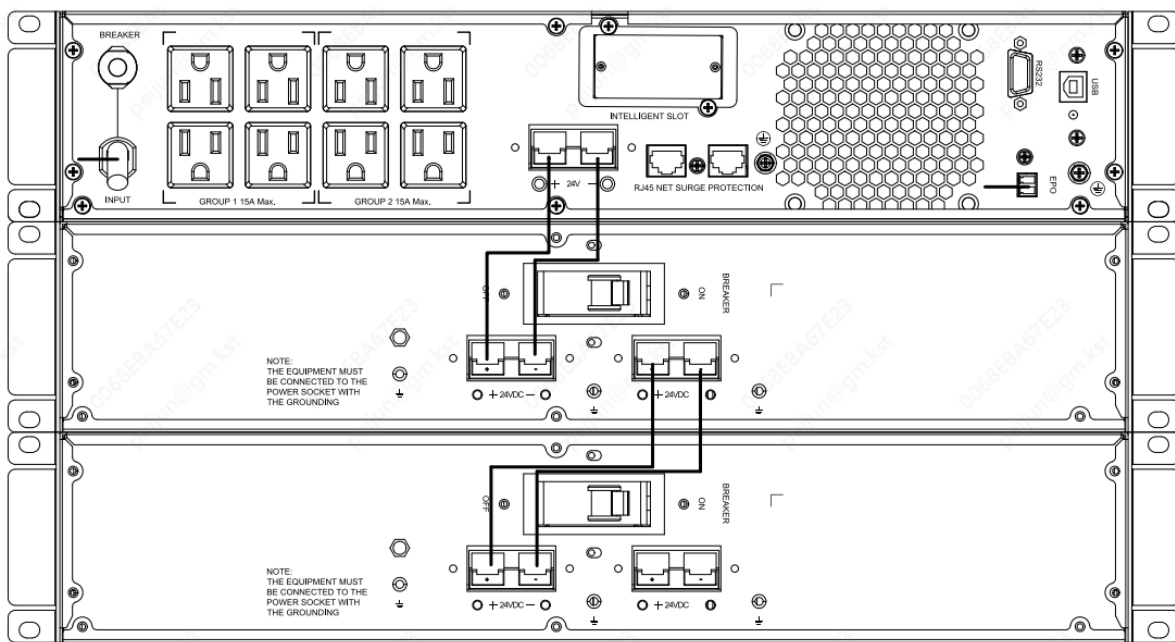

Figure 8 Typical EBP Installation
- Connect switch of the EBP, EBP installation (Figure 8).